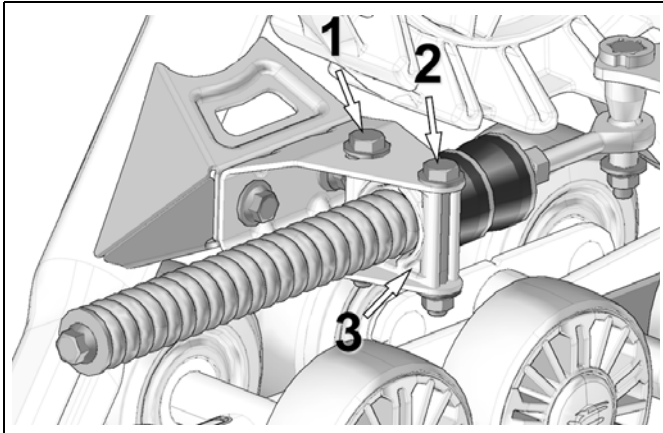

Figure 16
- Loosen anti-rotation bracket bolts (1) and (2) to allow the anti-rotation retainer (3) to rotate on its axis. See Figure 16.